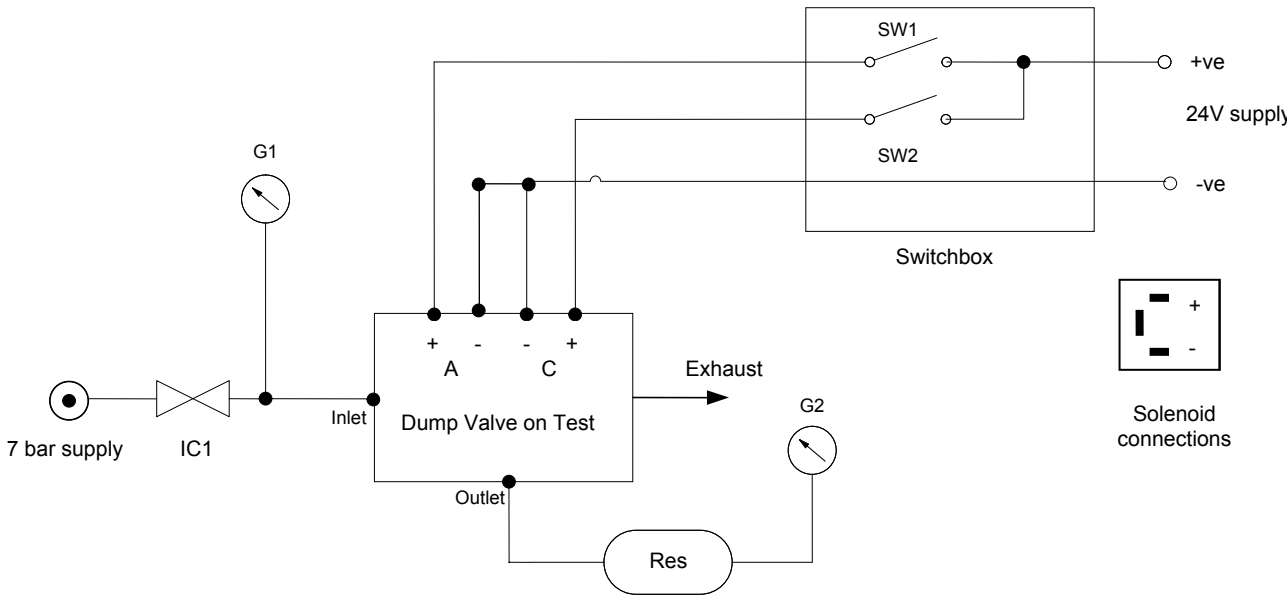

Figure 3: Electrical Schematic
- 5.1.1 Connect the valve to an electrical 24v supply as per Figure 3. Ensure the supply is isolated.
- 5.1.2 Connect the valve to an air supply as per Figure 3. Ensure the supply is isolated.